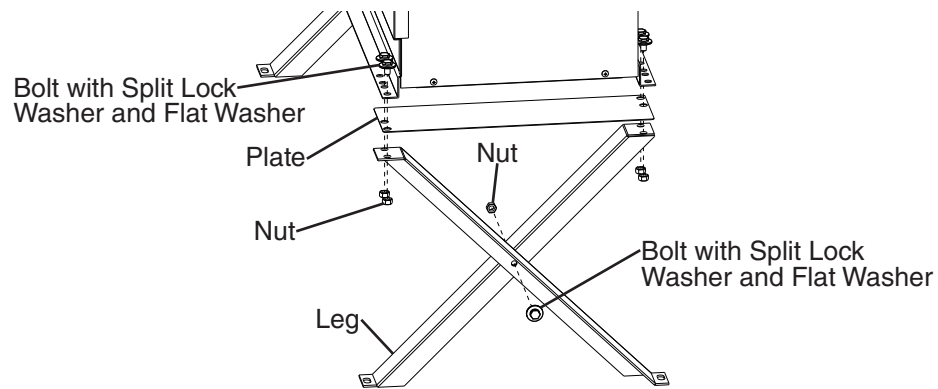

Fig. 9
- 1) Assemble 2 sets of legs using the legs, bolts, and nuts provided. See Fig. 9